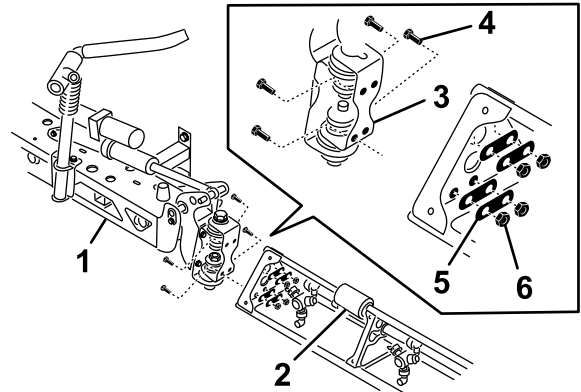

Figure 30
7. Install the extension boom to the center boom at the hinge plate using four bolts, four washers and four nuts removed in step 6 as shown in Figure 30.